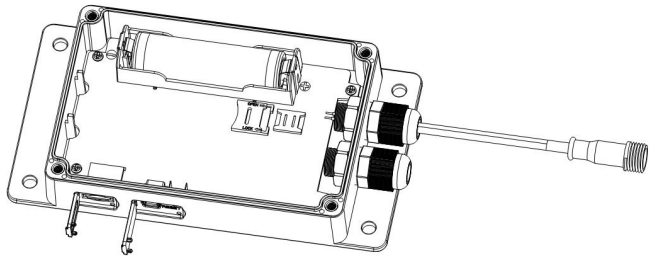

Figure 14
2. Open the rubber seal on Micro SD card slot and install a Micro SD card. (Figure 14)
3. Install the supplied li-ion battery into the battery chamber. Do not install the batteries incorrect to the polarity markings. You can permanently damage the receiver. Until now the receiver is able to charge, work and supply power to outdoor unit (Figure 14)